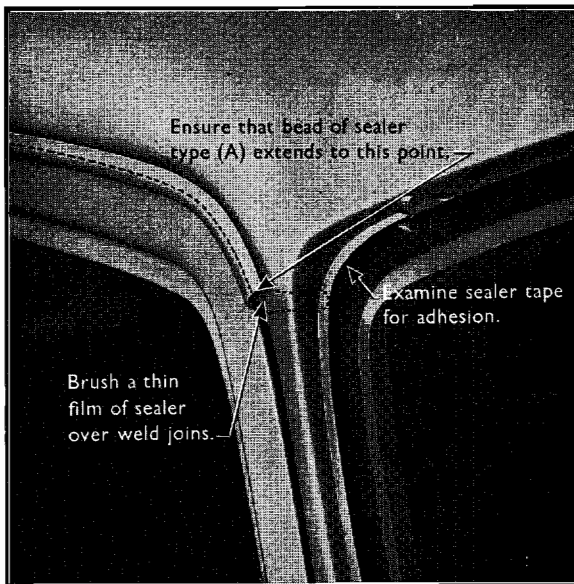

Fig. 1
**A1.** Examine the roof drain channels for leaks through the joints of the channels and roof panel. Seal along the inner and underside edge of each channel with a smooth fillet of sealer applied from a suitable gun or tube and nozzle. It is advisable to seal these joints along the entire channel lengths on both sides of the car. If it is suspected that water is entering the windscreen pillars and is finding its way down into the corners of the belt rail panel, remove the chrome mouldings on the windscreen pillars by drilling out the three rivets on each moulding. Ensure that the beads of sealer between the roof panel and channels extend to the extreme front ends (see Fig. 1).
Examine the waterproof tape covering the flange joint of roof panel and screen opening panel (as shown in Fig. 1) and ensure that the flange is well covered, paying particular attention to the top corners. If in doubt, a small quantity of sealer type (c) can be applied.